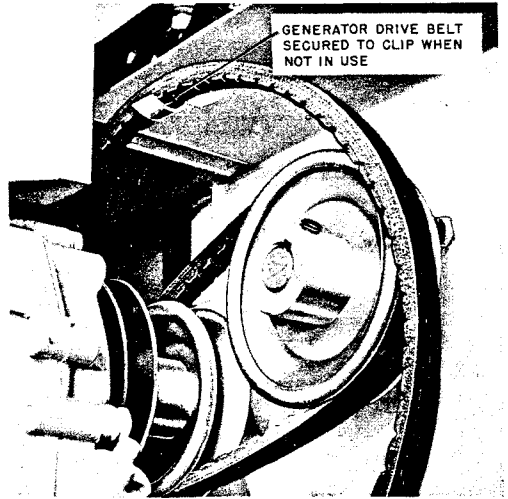

Fig. 11—Drive Belt Secured to Clip
6.02 It is not necessary to remove the generator from the unit after each use. Secure the generator drive belt to the clip (Fig. 11) when the generator is removed.